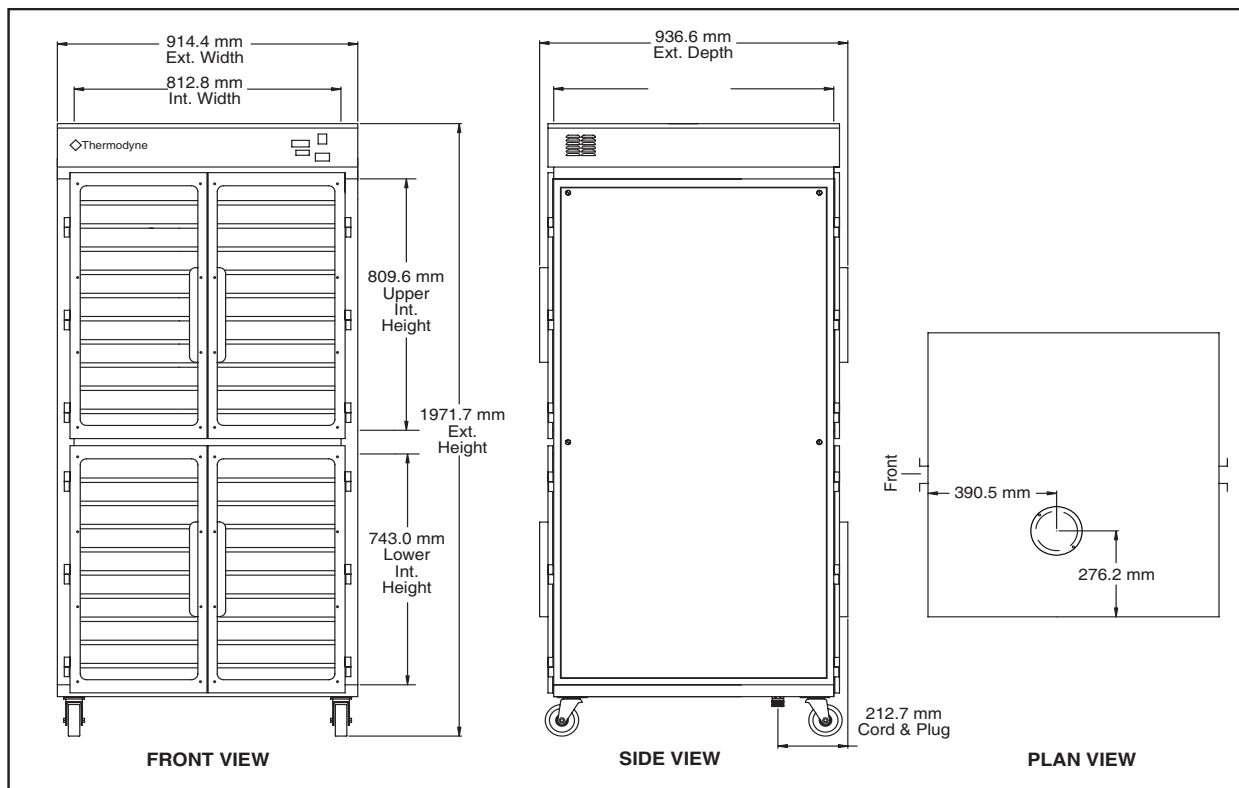

Figure 6. Outline Dimensional Drawing, 6000 P
7. Mount doors on cabinet as depicted in figure 6.